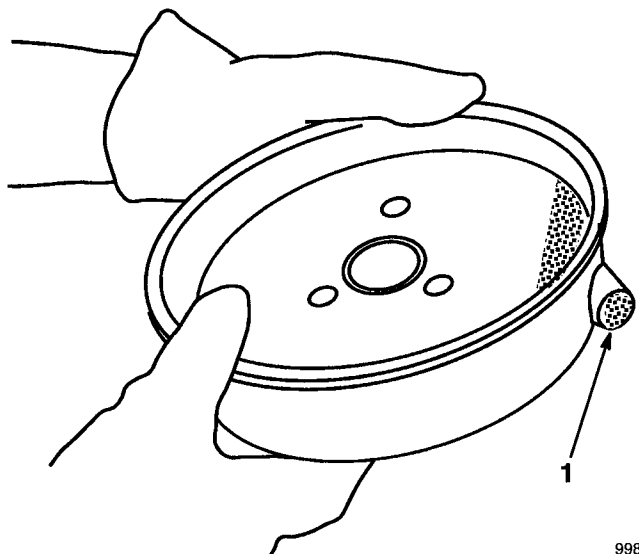

Figure 36
9. Clean carbon deposits from muffler and tube with wire brush and wood dowel (Fig. 36). Wipe muffler clean with paper towel or rag.